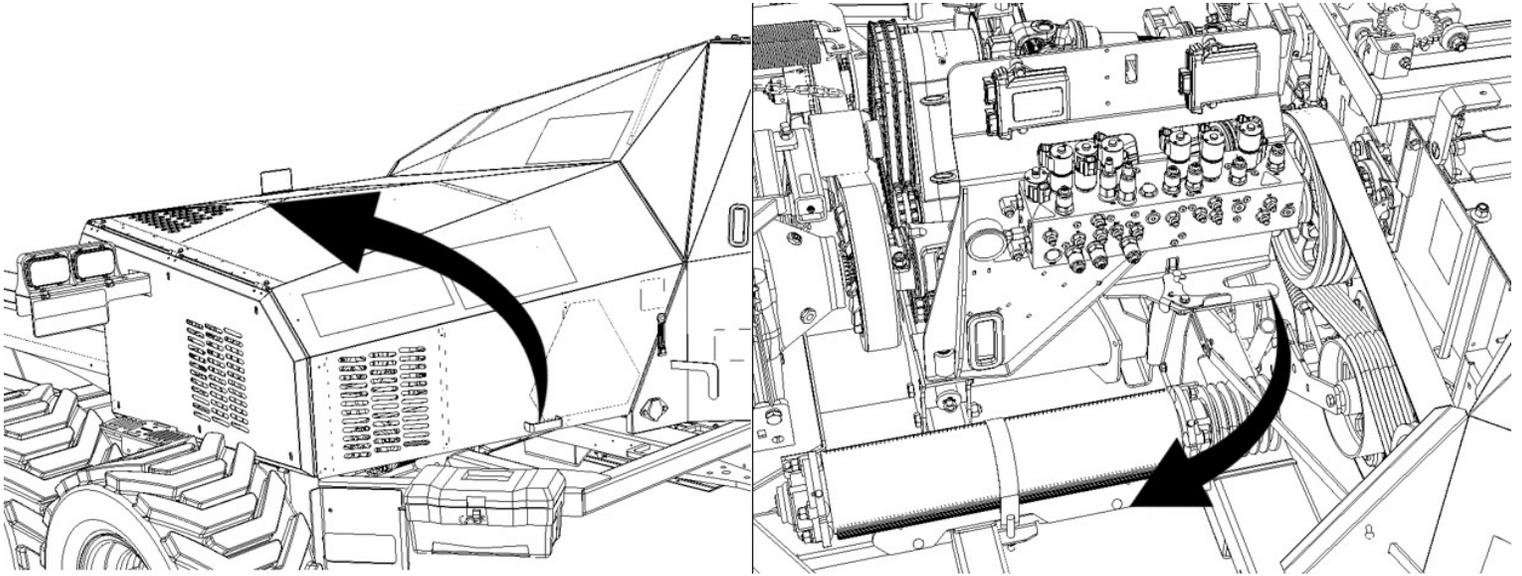

Figure 21 Main guard and valve manifold
STEP 1 - FIGURE 21
Swing the hydraulic valve manifold back in place. Fasten the bottom roll stainless plate (item 2) on the plastic guide rails with the provided wing bolts (item 1). Close the main guard. (Reverse from Step 1 – Figure 21 Main guard and valve manifold).